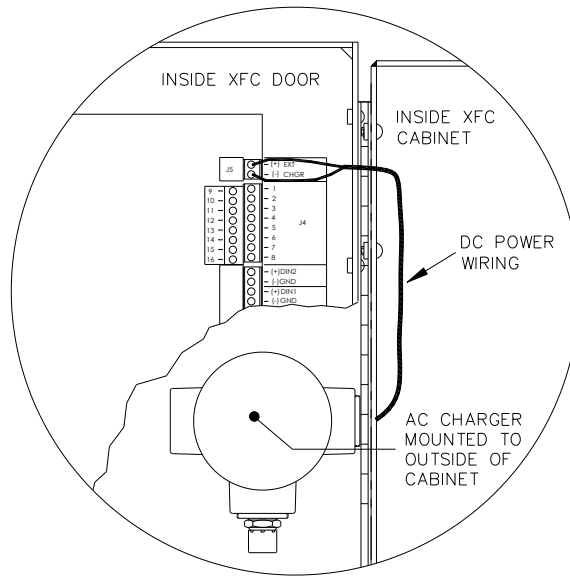

Figure 58 Mounting AC Charger
1. Remove one of the plugs from the side of the flow computer so that the ac charging unit can be mounted without obstruction (see Figure 58).